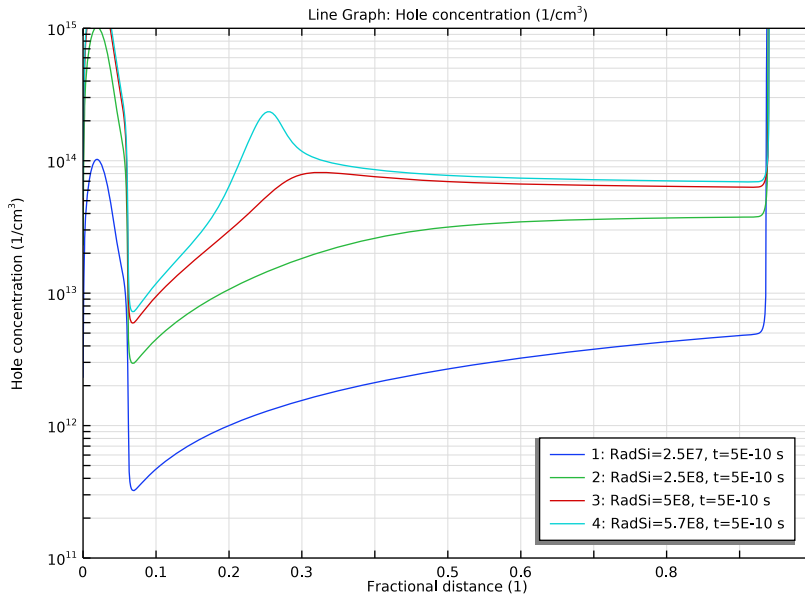

*Fig. 5B Steady-State Hole Distribution vs. Dose Rate*
- 2 In the **Settings** window for **ID Plot Group**, type Fig. 5B Steady-State Hole Distribution vs. Dose Rate in the **Label** text field.
- 7 In the **Fig. 5B Steady-State Hole Distribution vs. Dose Rate** toolbar, click  **Plot**.
- 1 Right-click **Fig. 5B Steady-State Hole Distribution vs. Dose Rate** and choose **Duplicate**.